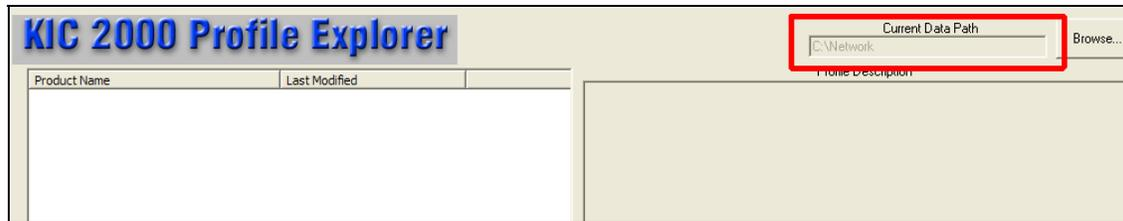

Figure 234
7. With the *KIC* software open, go into *Profile Explorer*. You should now see the new data path directory displayed in the upper right hand corner of the screen. See Figure 234.